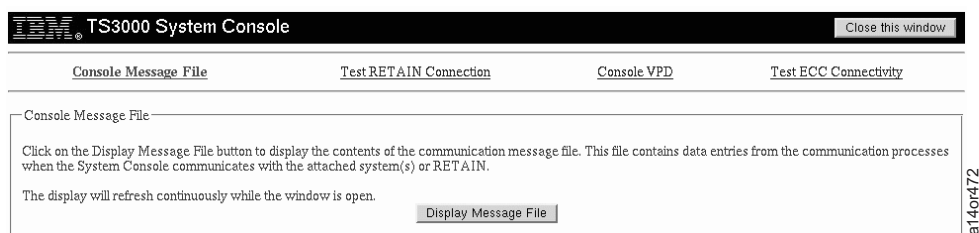
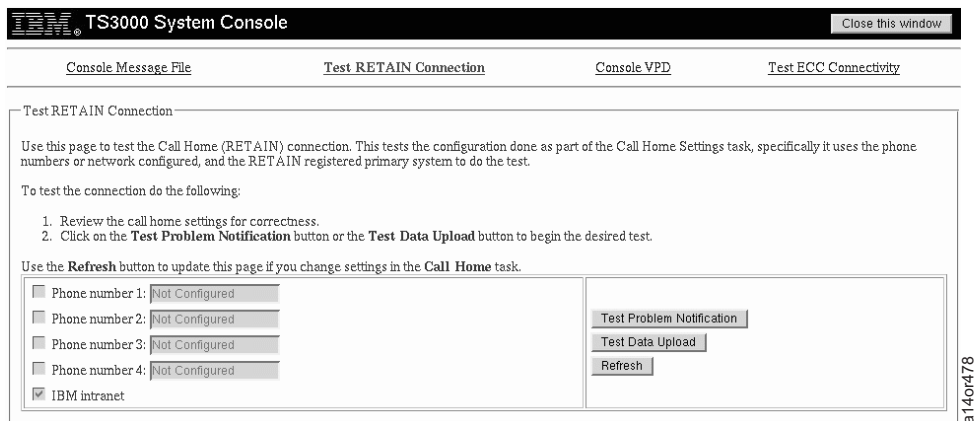
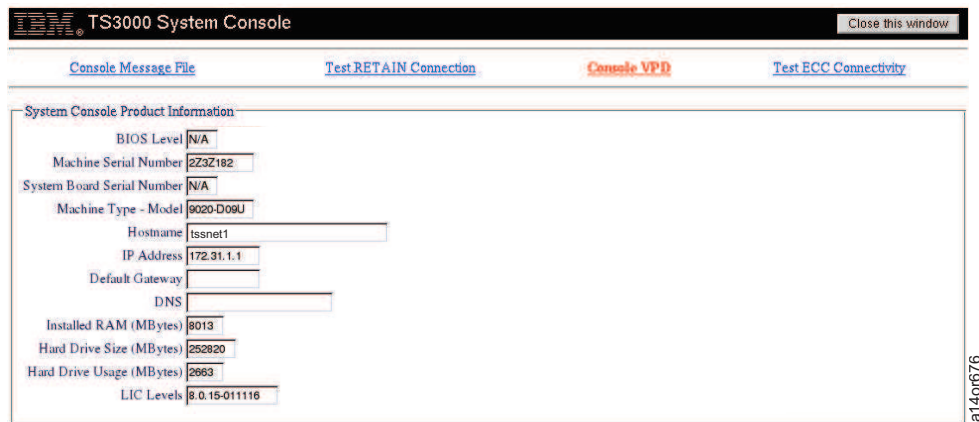

Figure 220. Console Message File Screen
Figure 222. Test RETAIN Connection Request Screen - As a Service Procedure
Figure 224. Console VPD Screen
5. Click **Console Status**. You see Figure 220.
1. From the Console Message File screen shown in Figure 220, select **Console Message File**.
1. From the Console Message File screen shown in Figure 220 on page 174, select **Test RETAIN Connection**. You see Figure 222.
From the Console Message File screen shown in Figure 220 on page 174, select **Console VPD**. You see Figure 224. The VPD information is listed in the System Console Product Information box.